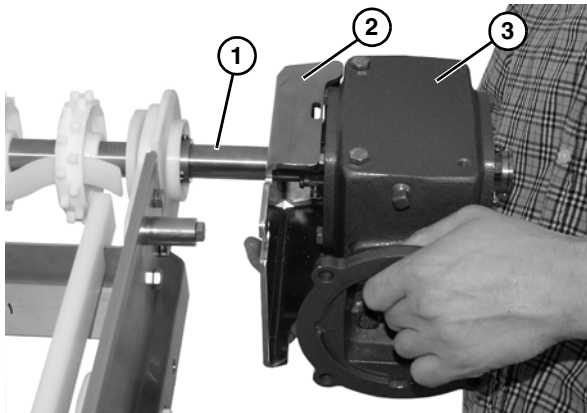

Figure 23
5. Remove gear reducer assembly from conveyor shaft (**Figure 23, item 1**), making sure to not lose key on conveyor shaft.
6. Remove screws and mounting bracket (**Figure 23, item 2**) from gear reducer (**Figure 23, item 3**).